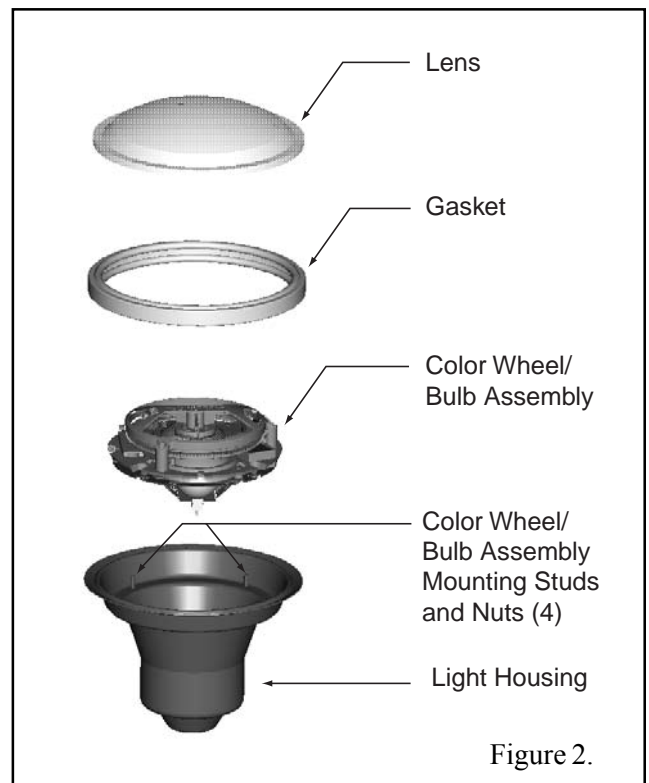

Figure 2.
Section V. Replacing lamp's only, see Figure 2.
2. With the light resting on its base, place lens/gasket assembly on light fixture and position so the white pointer on the color wheel/bulb assembly points to the "O" in the word "TOP" on the surface of the lens. See Figure 2.